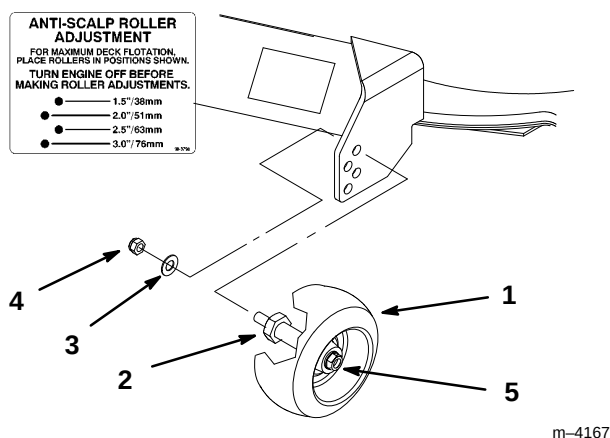

Figure 12
2. After adjusting height-of-cut remove flange nut and spring disk while holding stud with wrench (Fig. 12).
Note: Do not remove the wheel nut and washer (Fig. 12).
4. Reinstall the flange nut and spring disk (Fig. 12).